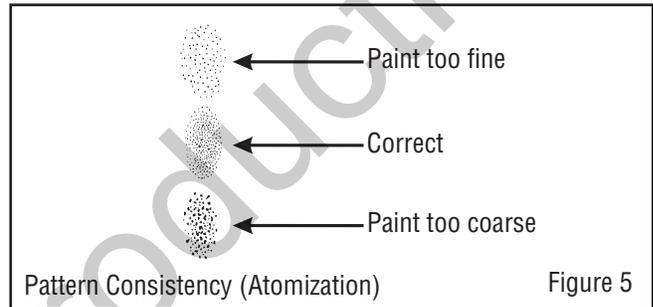

Figure 5
- Holding the spray gun 8-12 in. away from workpiece depending on the flow adjustment, atomizing pressure and the paint, spray a short burst while turning the fluid adjustment knob (G) until the desired pattern/atomization is obtained. If the spray is too fine, which is caused by too much air from amount of paint being sprayed, reduce the air pressure or open the fluid adjustment knob more to spray more paint. If the spray is too coarse or spitting blobs, reduce the amount of paint with the fluid adjustment knob or thin the paint more. (See Figure 5)